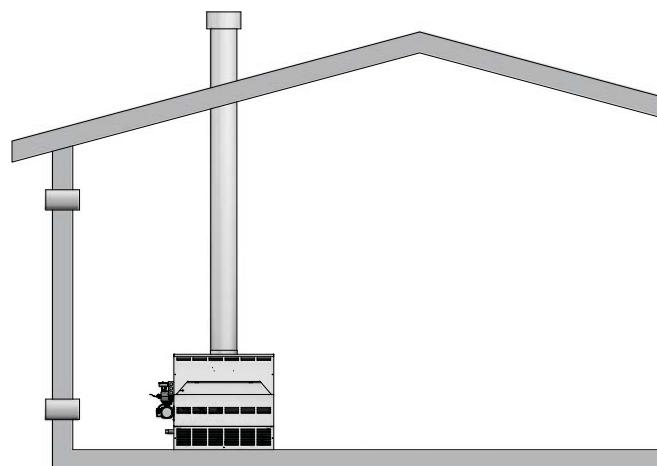

Figure 1-3 Combustion Air Direct from Outside
1. If air is taken directly from outside the building with no duct, provide two permanent openings (see FIG. 1-3):